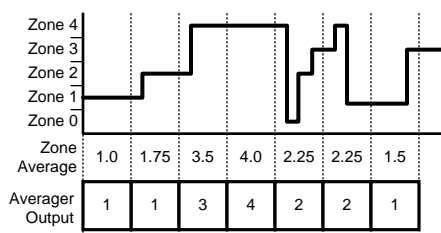

Figure 28. Averager Calculation
- The Averager will always round down to the lower zone in the event of a non-integer zone average. For example, if during an averaging period the ALS input transitions between zones 1 and 2 resulting in an averager output of 1.75, then the averager output will round down to 1 (see Figure 28).